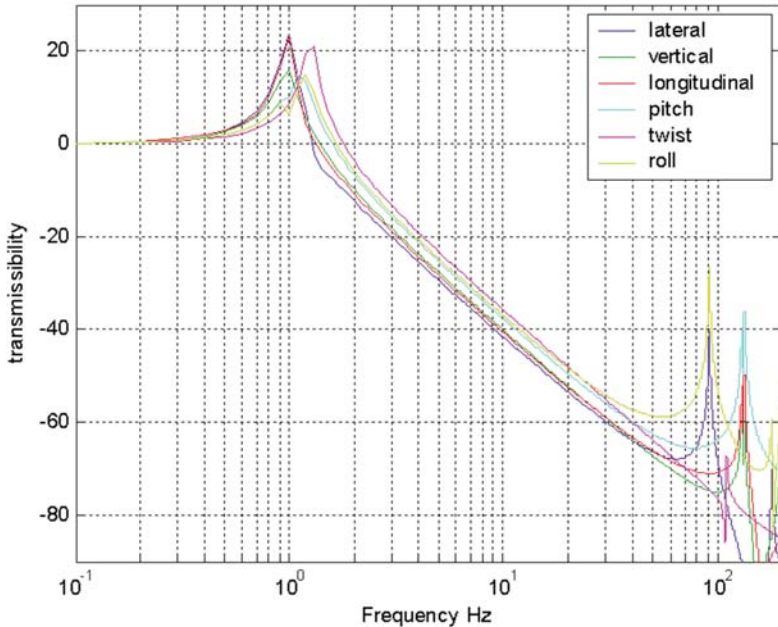

Fig 6
Recall from a transmissibility curve that when using pneumatic isolators, it is possible to achieve 80-90% isolation at frequencies greater than 10 Hz. Therefore, if the support structure stiffness is at least ten times greater than the isolator natural frequency, any vibration inputs at a structural resonance will be significantly reduced. This is especially important when support structures are fabricated steel or aluminum. Since these metals have very little damping when excited at their structural natural frequencies, the amplification at resonance is large. (Fig 6)
A second criteria for proper implementation of a pneumatic isolation system is the location/placement of the isolators. During design, the elastic plane of the isolators ideally should be in the same plane as the composite center of gravity (CG) of the payload and its support structure. In this manner, only translational modes (horizontal and vertical) of the isolator are observed. Since all isolators are free to move in all six axes (translational and rotational), rotational modes are also observed when the isolators are located below the center of gravity. (Fig 6)